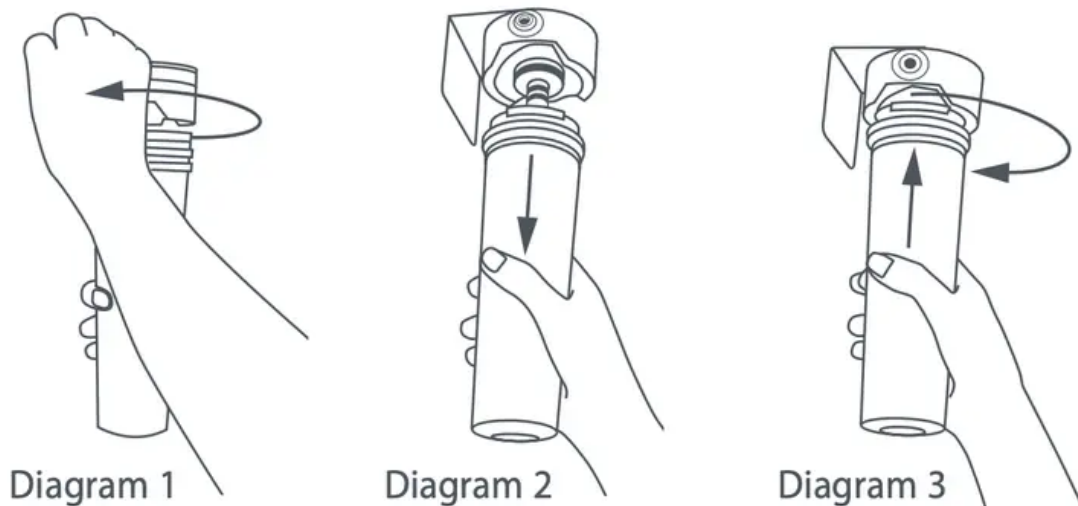

Fig.22 Changing the water filter cartridge
2. Pull the cartridge away from the filter head (down when installed in the recommended orientation) as shown in Diagram 1 of Fig 22 below.